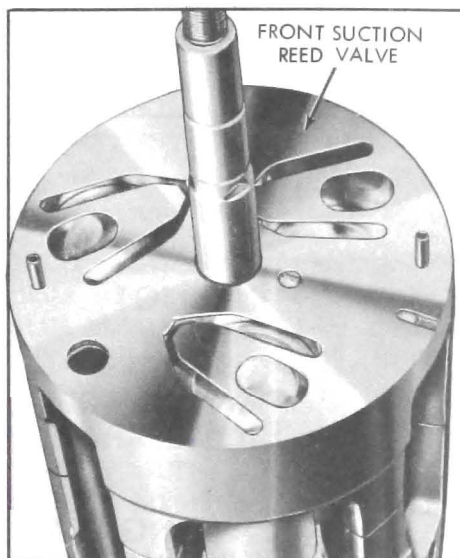

Figure 11-90—Front Suction Reed Valve Installed
2. Assemble suction reed valve to front end of cylinder. Align dowel pin holes, suction ports and oil return slot. See Figure 11-90.